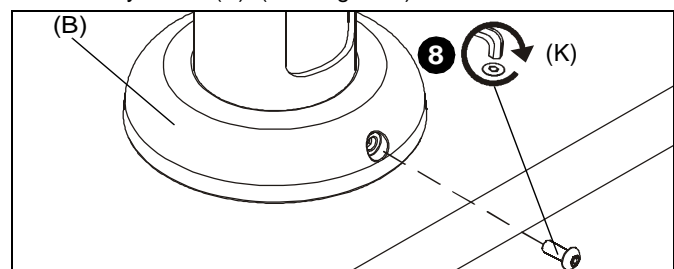

Figure 4
8. Secure lower cover to table stand (B) using #10-24 x 1/2" security screw (K). (See Figure 4)